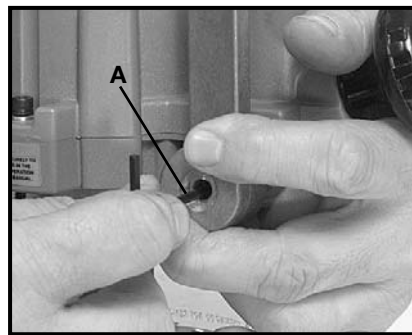

Fig. 15
3. Insert $\frac{1}{8}$ " allen wrench (A) Fig. 15, (not furnished) into adjustment screw and turn counterclockwise approximately $\frac{1}{2}$ turn.